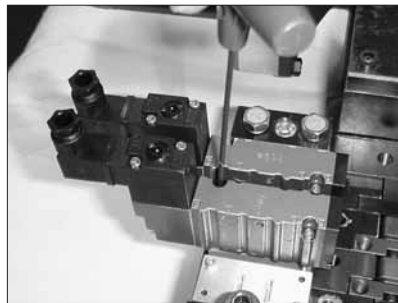

Figure 7-44 Removing solenoid valves
1. See Figure 7-44. Using a 2.5-mm hex wrench, remove the solenoid valve mounting screws and then remove the solenoid valves and their heat isolation gaskets.